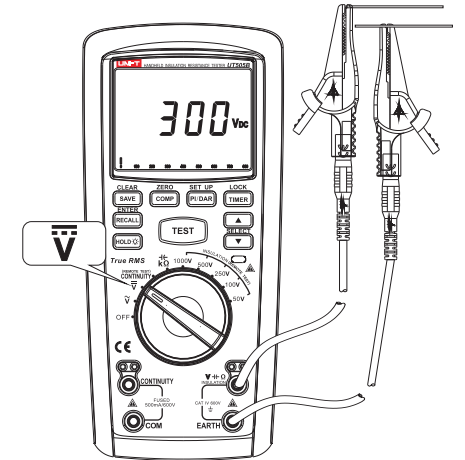

Figure 5
2. Measuring of DC Voltage (See Figure 5)
- ① Insert the red probe into "V" jack (red jack), and black one into "EARTH" jack (black jack).
- ② Rotate dial switch to the "V" tap position and connect the probe to both ends of the power supply or load to be tested in parallel.
- ③ Read current measuring values of DC voltage from the display.
- ④ In measuring, if intending to save measured voltage, press the key of "SAVE/CLEAR" for saving.